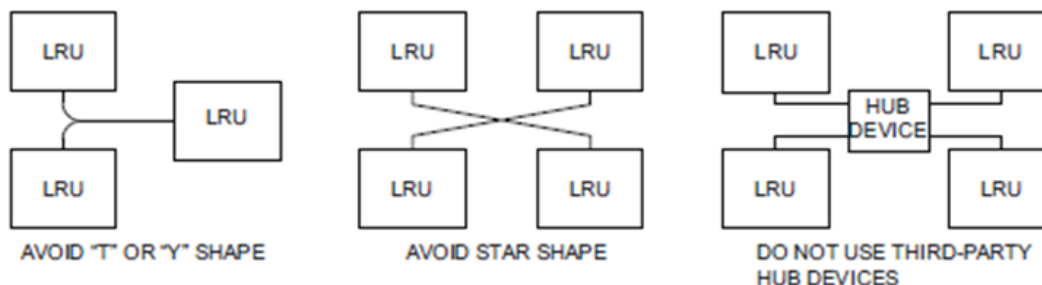

Figure 5-1 – Incorrect CAN Bus Topographies
- The CAN bus backbone must be a single linear path with exactly two distinct ends. CAN bus connections must be “daisy-chained” from device to device. Avoid “star” and “Y” topologies, and do not use a hub device. Reference Figure 5-1.